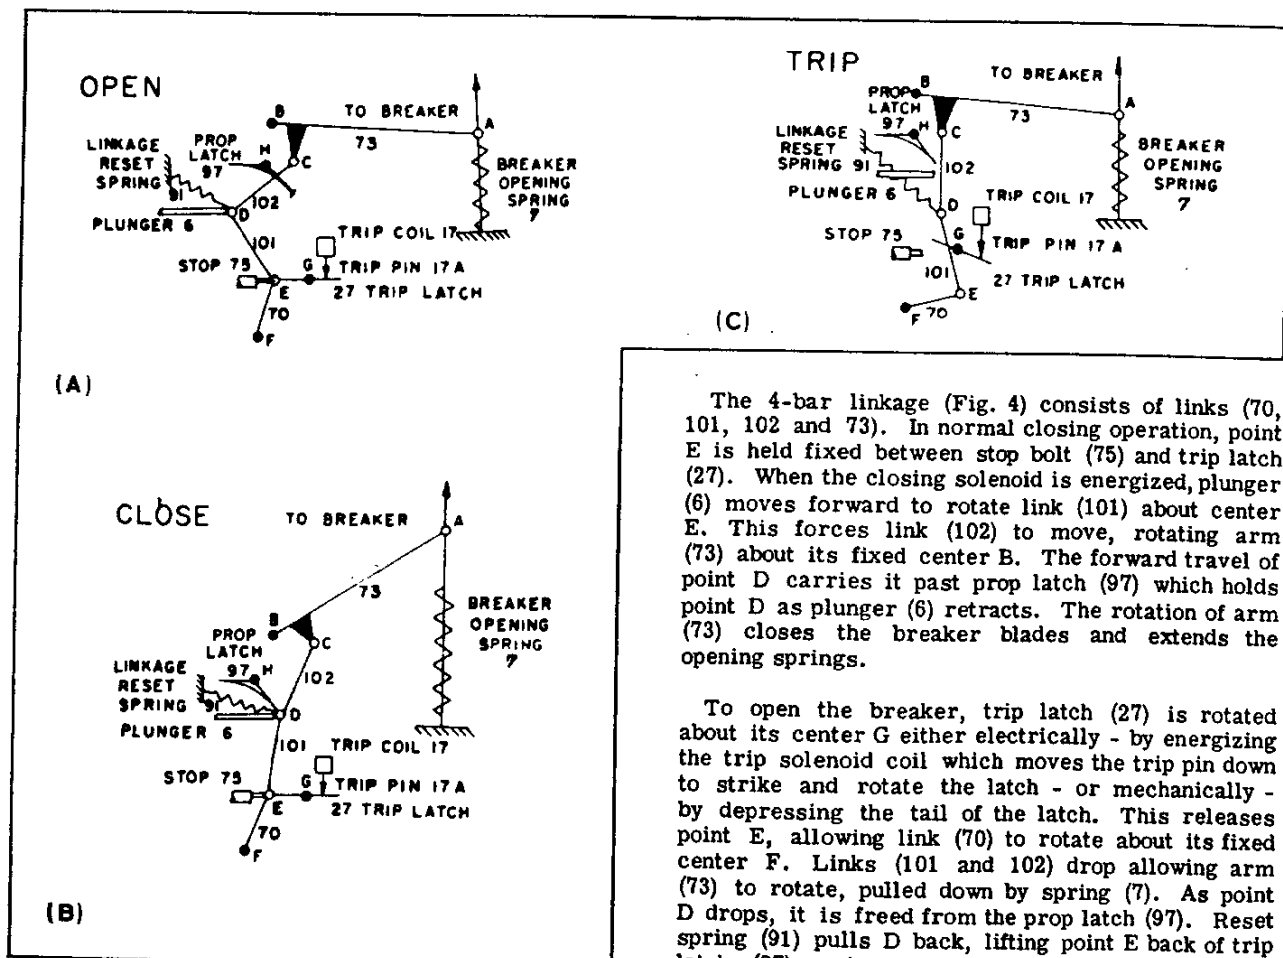

Fig. 4 - Four-bar linkage.
The 4-bar linkage (Fig. 4) consists of links (70, 101, 102 and 73). In normal closing operation, point E is held fixed between stop bolt (75) and trip latch (27). When the closing solenoid is energized, plunger (6) moves forward to rotate link (101) about center E. This forces link (102) to move, rotating arm (73) about its fixed center B. The forward travel of point D carries it past prop latch (97) which holds point D as plunger (6) retracts. The rotation of arm (73) closes the breaker blades and extends the opening springs.